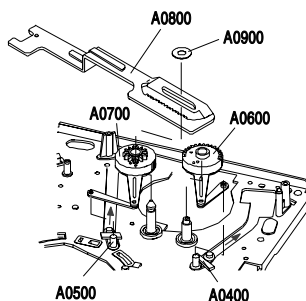

Fig. 13
- Remove the retaining washer (Pos. A0900, Fig. 13).
- Remove the threading rack gear (Pos. A0800, Fig. 13).
- Remove the threading arms (Pos. A0700 / A0600, Fig. 13).
- Push the threading roller units (Pos. A0400 / A0500, Fig. 13) in the shown direction of the arrows and remove them.